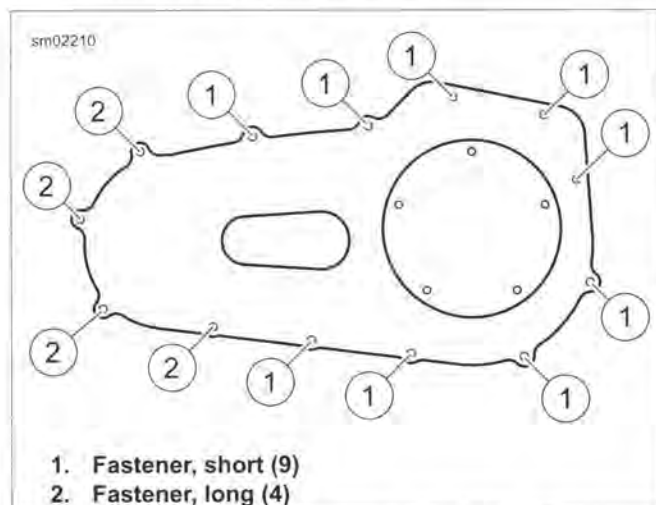

Figure 5-1. Primary Chaincase Cover and Fasteners
4. See Figure 5-1. Remove fasteners (1, 2). Remove primary chaincase cover.
3. Install **new** cover gasket (1).
4. See Figure 5-1. Apply a drop of LOCTITE 243 MEDIUM STRENGTH THREADLOCKER AND SEALANT (blue) to each primary cover fastener (1, 2). Install in locations shown. Tighten finger-tight.